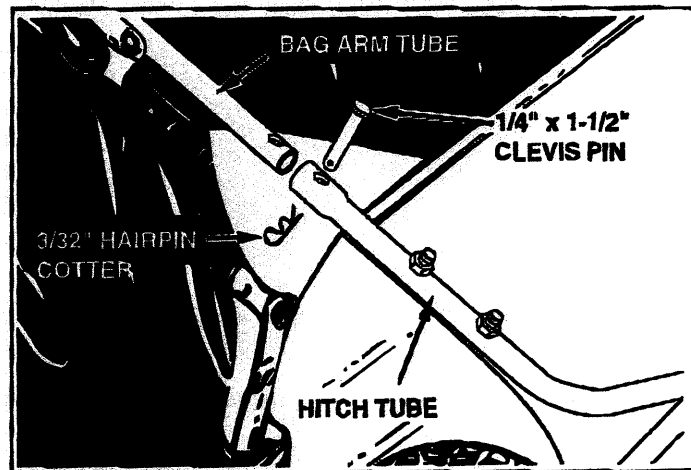

FIGURE 5
7. Assemble the hopper bag to the sweeper by sliding the ends of the bag arm tubes into the ends of the hitch tubes. Secure with two 1/4" x 1-1/2" clevis pins and 3/32" hairpin cotters that came preassembled to the hitch tubes. See figure 5.